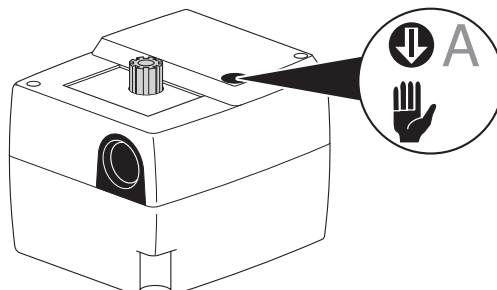

Figure C-2: Actuator gearing latch switch
1. Ensure the clutch of the motorised actuator is disengaged allowing for free movement with the rotary handle. To disengage, place a screwdriver into the slot available, press down and turn clockwise. You will have disengaged when the arrow is facing the direction of the hand. Refer to Figure C-2.